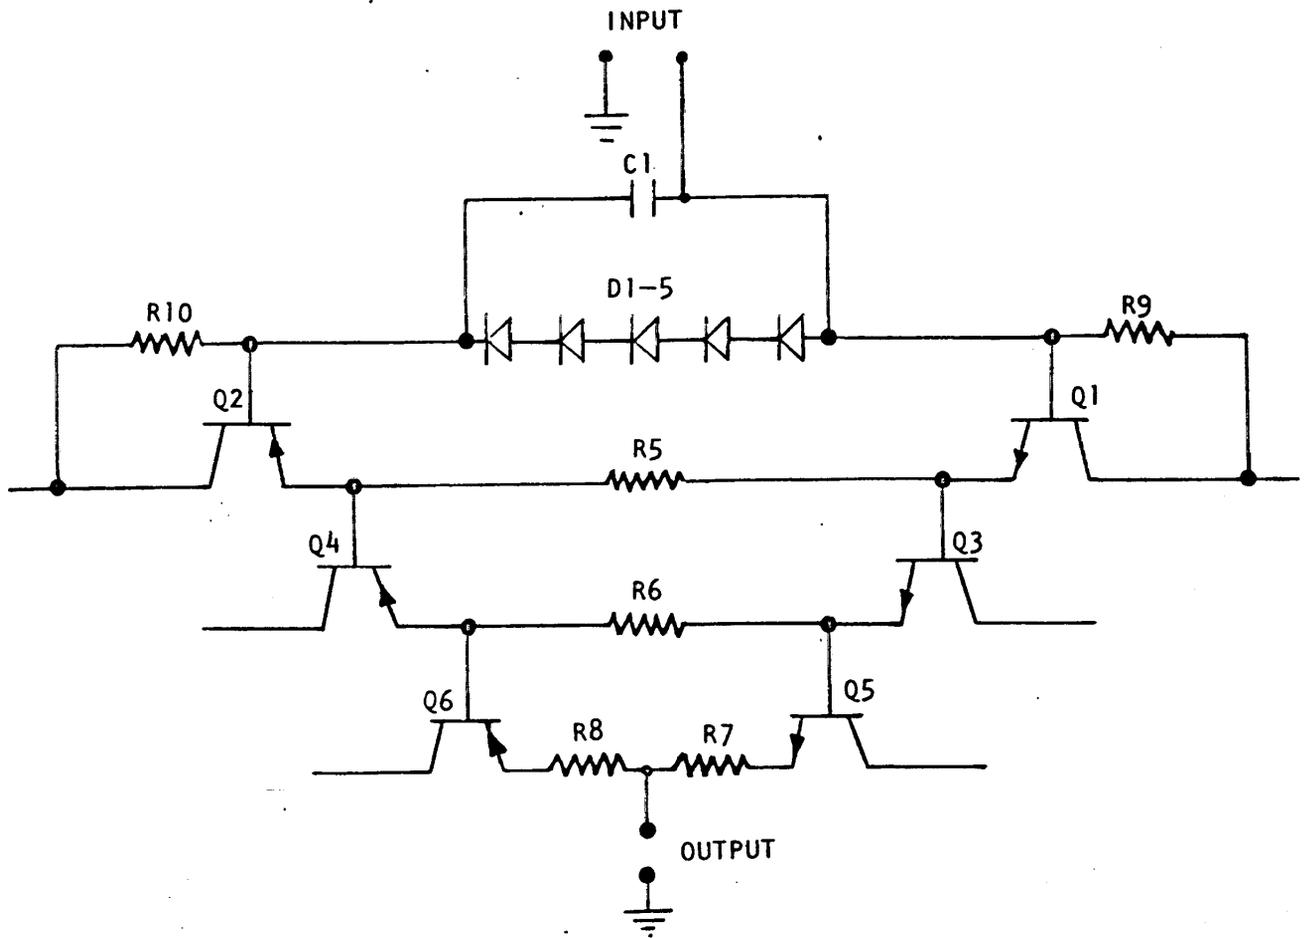

Figure 3-1 BASIC "T" CIRCUIT
Figure 3-1 is a schematic diagram of the Locanthi three-stage cascaded complementary symmetry emitter-follower output circuit, hereafter referred to as a T-Circuit. (Because of its NPN-PNP symmetry, the configuration has the general appearance of the T-Network).
3.2.1.2 THERMAL STABILITY - The output transistors (Q5 and Q6 in figure 3-1) are connected directly to a high current power supply of about  $\pm 37.5$  V potential. Each base of the output circuit has a path allowing the collector-to-base leakage current to flow through its opposite driver-stage emitter. It can be seen that suitable collector-to-base leakage current paths are provided for all of the transistors.